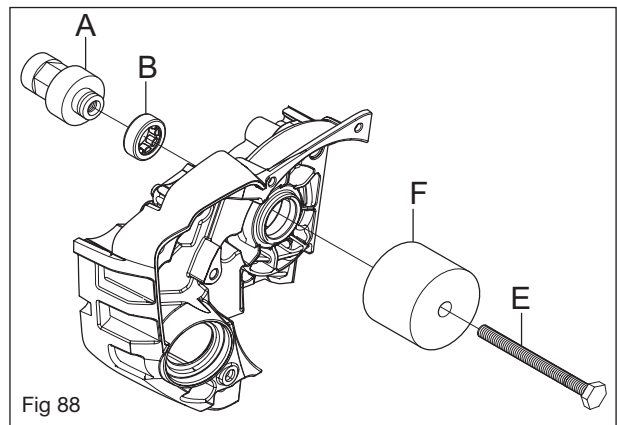

Fig 88
Use the 576 66 64-01 (A), 576 95 45-01 (B) and 725 33 80-51 (C) tools to assemble the crankcase bearing and sealing ring. Fit the service tool as outlined in Figure 88. Tighten with a suitable socket spanner until the roller bearing snaps in place.